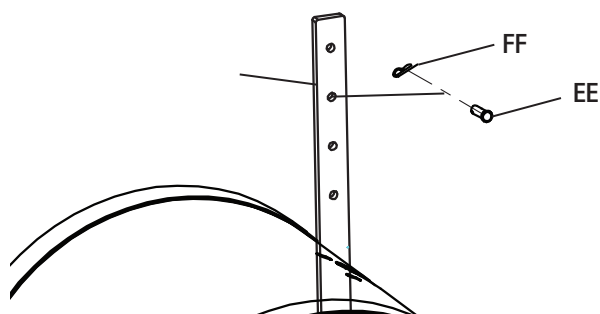

Figure 1-9
- Adjust the depth regulator lever to desired tilling depth. Insert the clevis (EE) and cotter pin (FF) to secure depth regulator to desired depth. See Figure 1-9.